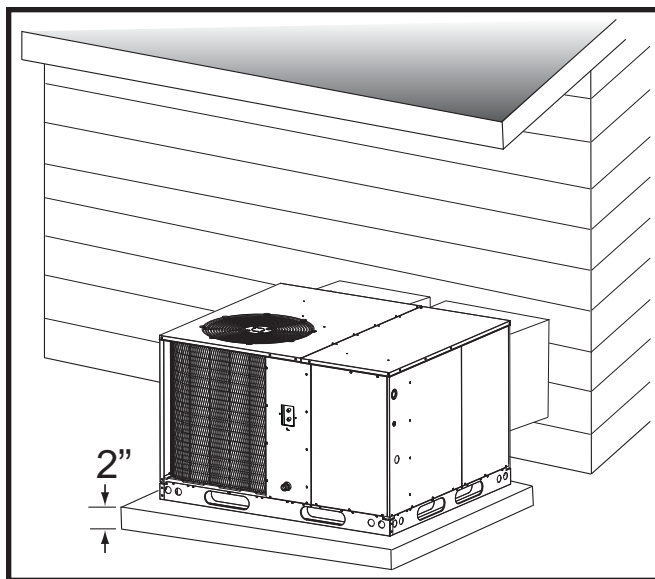

Figure 3. Ground Level Installation
- A suitable mounting pad (Figure 3) must be provided and separate from the building foundation. The pad must be level to ensure proper condensate disposal and strong enough to support the unit's weight. The